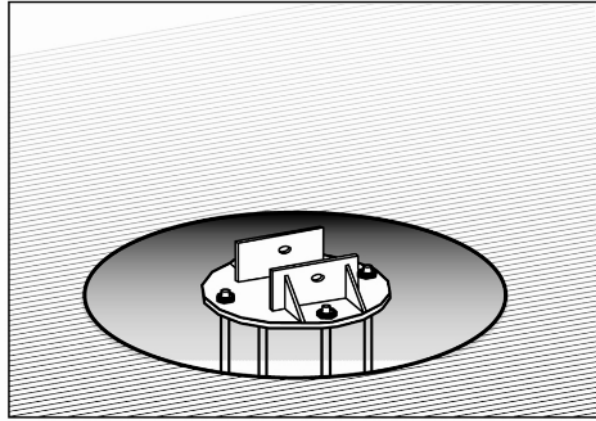

Fig 2 Layout of the Base
Diagrammatic sketch of installing the base and the anchor are shown in Figure 2 and 3.
2. Pouring concrete C25. Put four anchor bolts in the center base. Pay attention to the base hole, the base will be fixed with bolts in the prior pouring cement seat.(as shown in Figure 2)